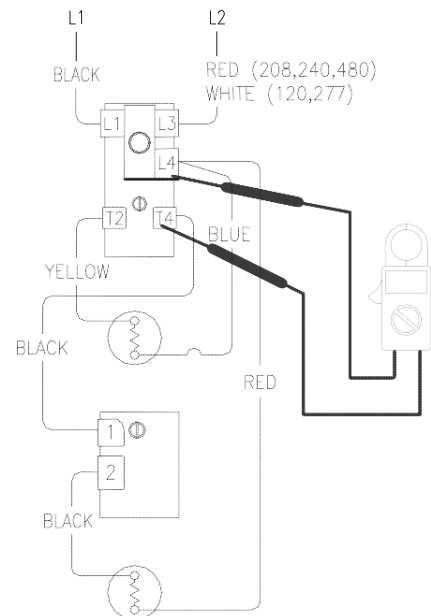

Figure 10
6. Check voltage across terminals L4 and T4 of upper thermostat (see Figure 10).